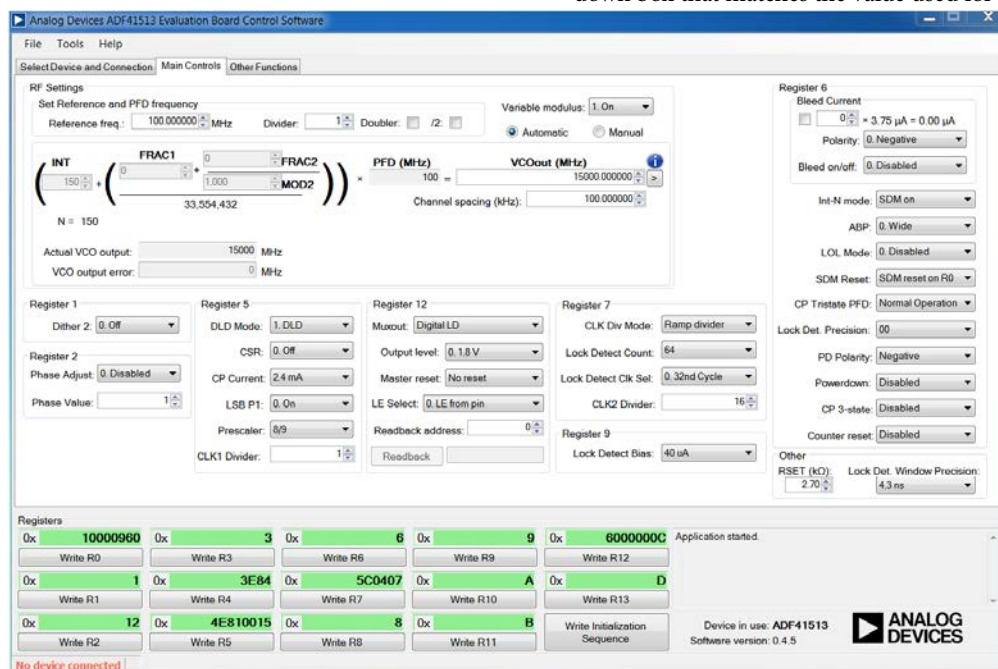

Figure 6. Software Front Panel Display, **Main Controls** Tab
The **Main Controls** tab (see Figure 6) selects the RF and user configurable register settings. Consult the register descriptions of the ADF41513 data sheet for details. The default setting is recommended for most registers.
10. Click the **Main Controls** tab, and set the **VCOout (MHz)** box to a frequency of 15,000 MHz (see Figure 6).